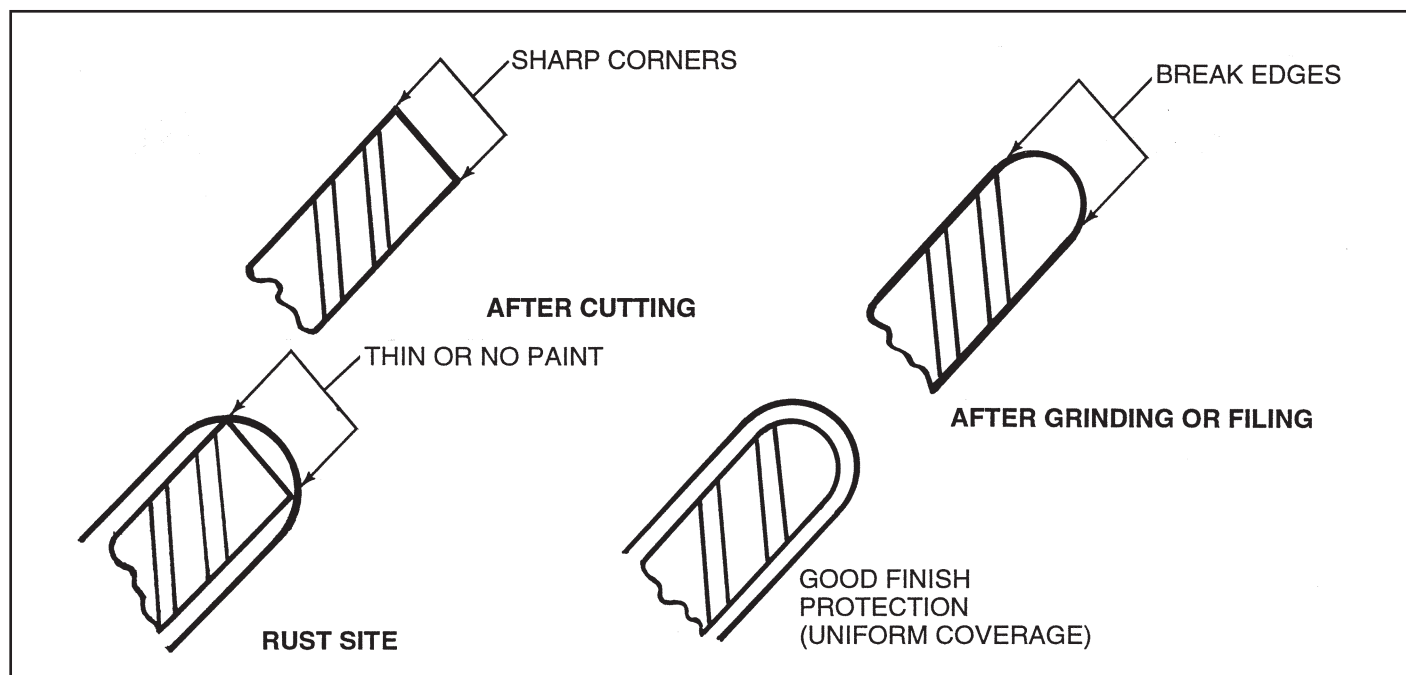

Figure 1
- Round off all pierced, drilled or cut edges to allow a uniform coating of paint as shown in Figure 1 (next page).